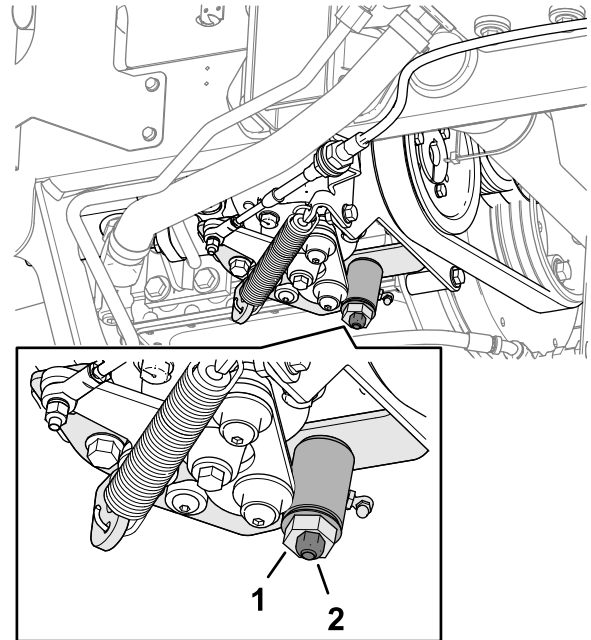

Figure 79
3. Loosen the locknut on the traction adjustment cam (Figure 79).